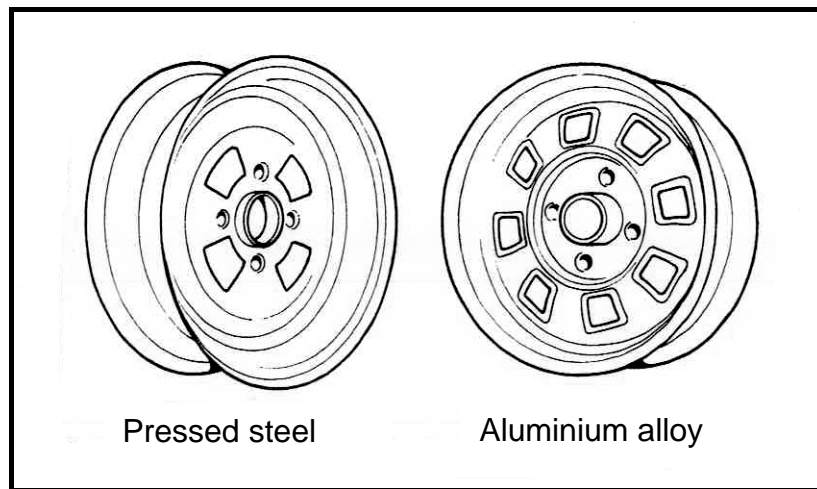

FIGURE 4.2
- 4.2 The wheel rims on some motor cars are fabricated from mild steel pressings. Others are cast in aluminium alloys as shown in FIGURE 4.2. Steel has a density of $7,8 \text{ g/cm}^3$ and aluminium alloys of around $2,7 \text{ g/cm}^3$.